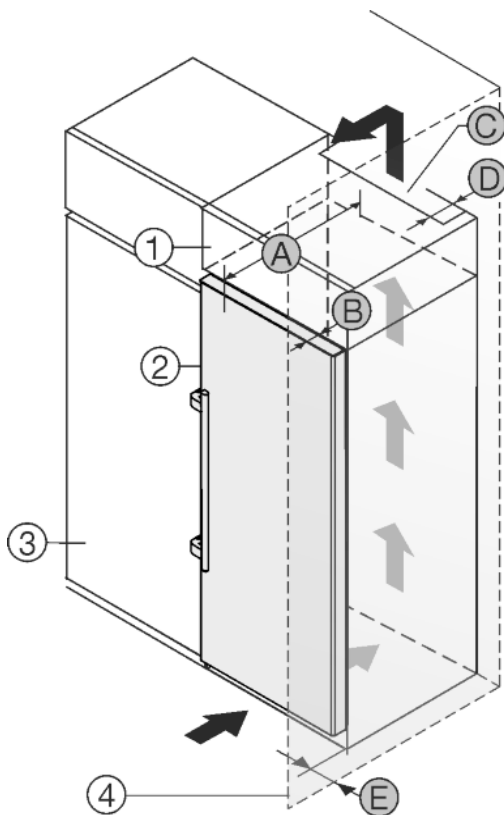

Fig. 24
The appliance can be built into kitchen units. A top cupboard Fig. 24 (2) can be added above the appliance in order to bring the appliance Fig. 24 (1) up to the height of the fitted kitchen units.
The appliance can be installed right next to the kitchen cabinet Fig. 24 (3). The appliance must stick out by the depth Fig. 24 (B) from the front of the cabinet so that the doors can be opened fully. The appliance may protrude further depending on the depth of the kitchen cabinets and whether wall spacers are used.
- There must be a ventilation shaft with the depth Fig. 24 (D) at the back of the top cupboard over the entire width of the cupboard.
- The ventilation shaft Fig. 24 (C) must be observed under the ceiling.
If the appliance is installed with the hinges next to a wall Fig. 24 (4) the distance Fig. 24 (E) between the appliance and the wall must be observed. This is how far the handle protrudes when the door is open.